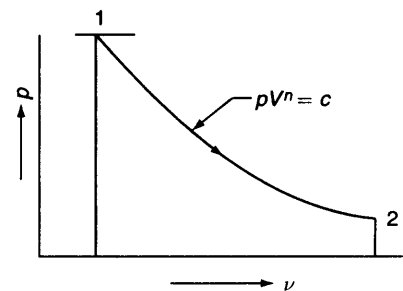

Fig. Ex. 9.12
**Solution** Since the path of expansion (Fig. Ex. 9.12) follows the equation